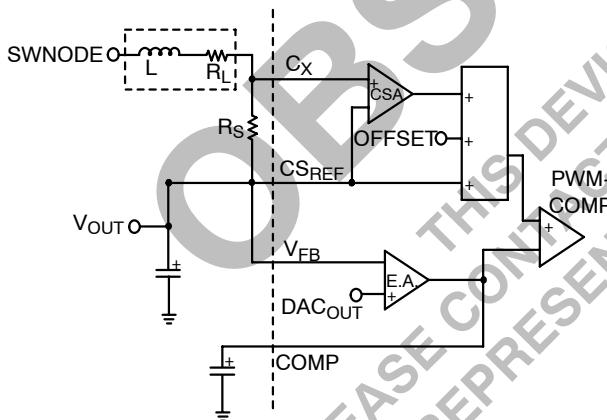

Figure 9. Enhanced V2 Feedback and Current Sense Scheme
The enhanced V2 architecture measures and adjusts current in each phase. An additional input (CX) for inductor current information has been added to the V2 loop for each phase as shown in Figure 9.
considered when setting the  $I_{LIM}$  threshold. If a more accurate current sense is required than inductive sensing can provide, current can be sensed through a resistor as shown in Figure 9.